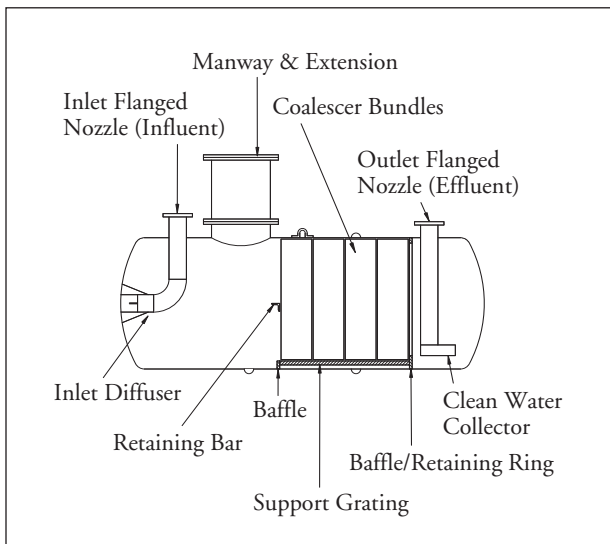
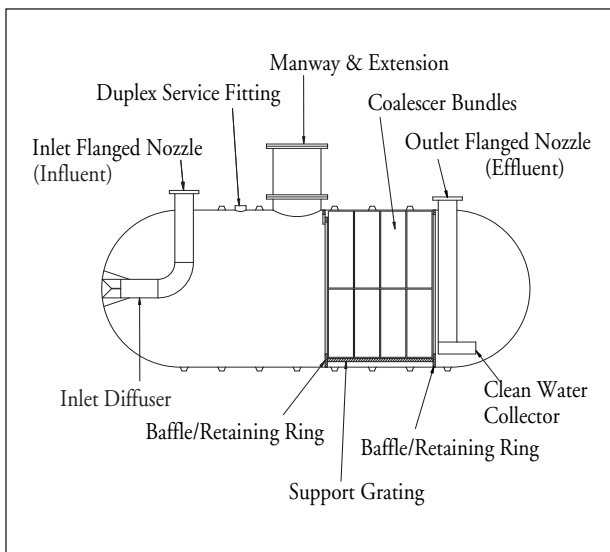
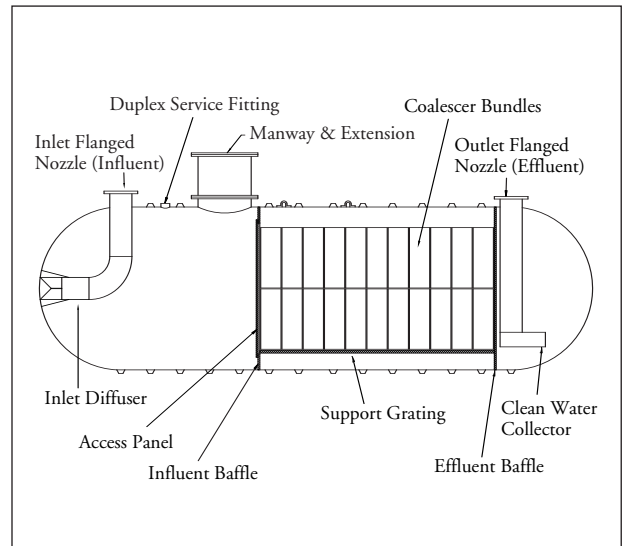

FIGURE 1-1
FIGURE 1-2
FIGURE 1-3
1.3.1. For terms related to the Xerxes OWS, see *FIGURE 1-1* (for 4-foot-diameter OWS), *FIGURE 1-2* (for 6-foot-diameter OWS) and *FIGURE 1-3* (for 8-foot-diameter OWS and 10-foot-diameter OWS). These drawings are for purposes of terminology only.